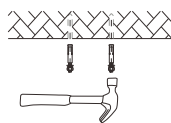

Figure 4
- 2.Use a hammer to put the expansion screws into the holes.(Figure 4)